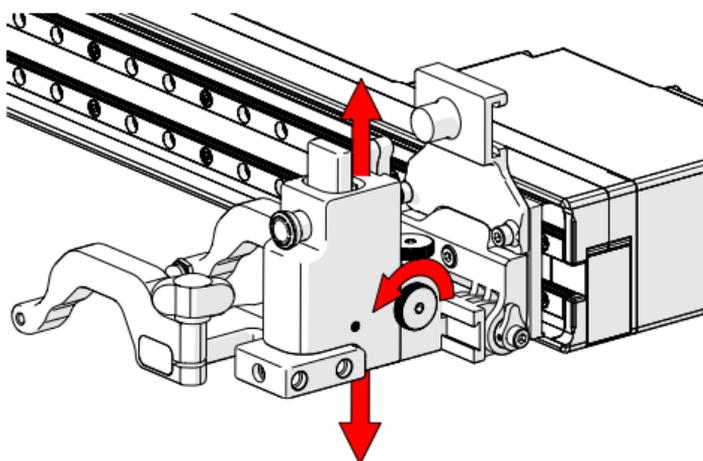

Fig. 114 - Vertical adjustment
2. The vertical adjustment knob (*Fig. 114*) allows the heavy duty vertical probe holder's height adjustment. This adjustment also controls the probe holder's spring tension.